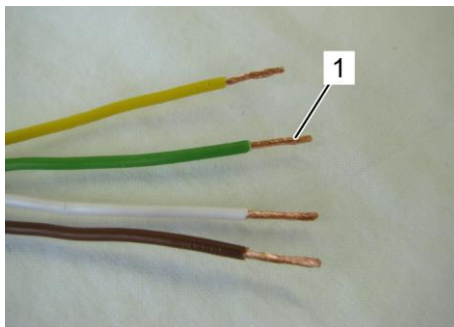

Fig. 26: Stripping insulation
4. Strip the insulation of each conductor (Fig. 26/1) to approximately 1 cm.